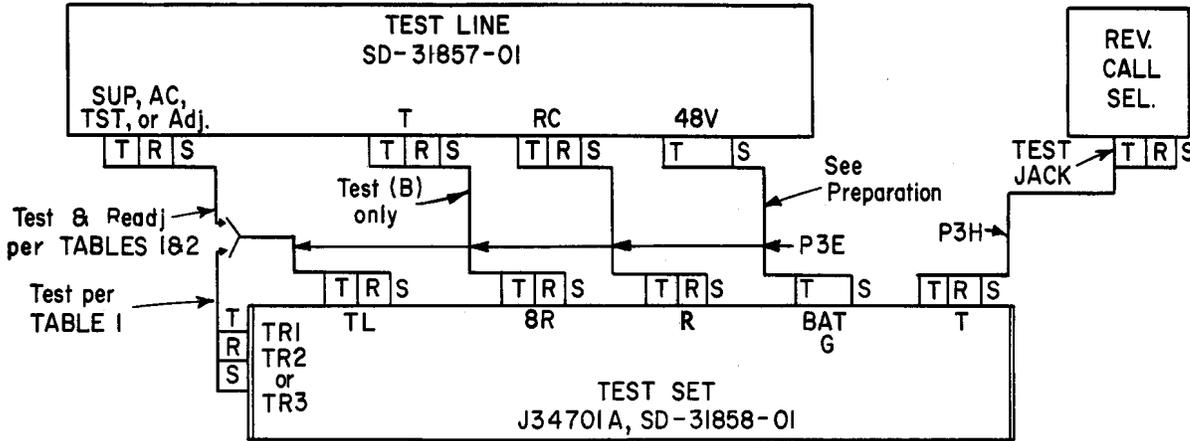

Fig. 1
1.06 When testing reverting call selectors which have a 60- to 75-volt silent interval tripping battery, and for which ac requirements are specified, any ring-trip relay which fails on test shall be readjusted to meet the requirements in Section 040-236-701 and the readjust ringing current values provided by the test line. These values are obtained by connecting the TL jack of the test set to the AC jack of the test line as shown in Fig. 1 and Table 1.
1	Connect the test line to the test set as shown in Fig. 1 as required by Table 1 or Table 2.